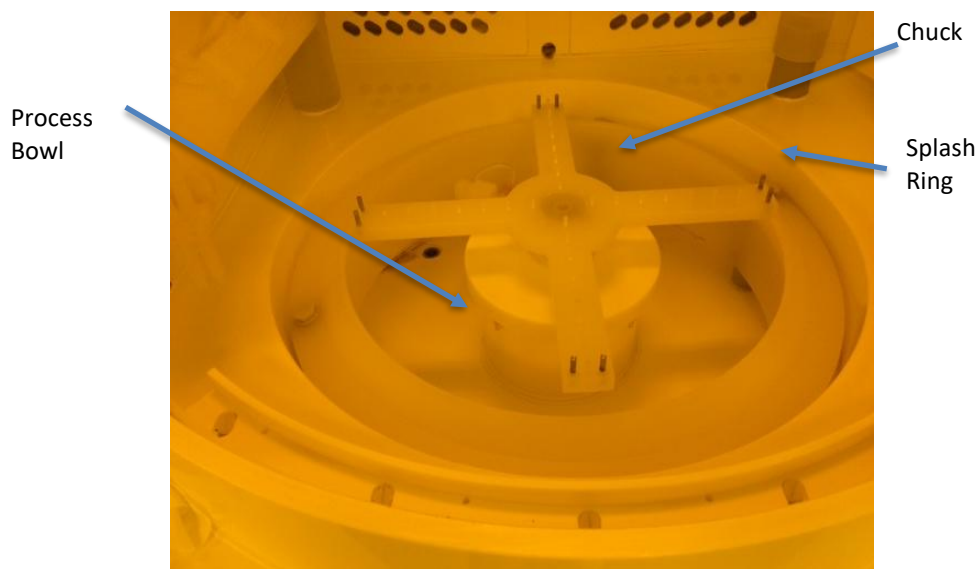

Figure 5: Process Bowl
1. Clean the process bowl. To do so, use acetone soaked clean-room wipes to remove resist residue from the Process Bowl. See Figure 5.
5. Clean the chuck and cover. See Figure 5.
- Inspect for leaks in the chemical or deionized water (DI) water tubing.
7. Check and clean the splash ring. See Figure 5.